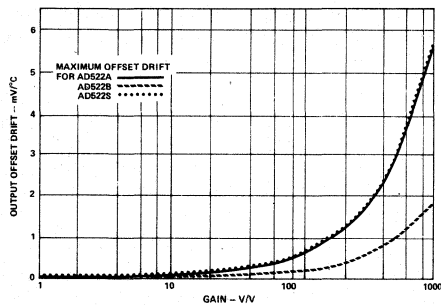

Figure 3. Output Offset Drift (RTO) vs. Gain
**Offset Voltage and Current Drift:** The AD522 is available in four drift selections. Figure 3 is a graph of maximum RTO off-set voltage drift vs. gain for all versions. Errors caused by offset voltage drift can thus be determined for any gain. Offset current drift will cause a voltage error equal to the product of the offset current drift and the source impedance unbalance.